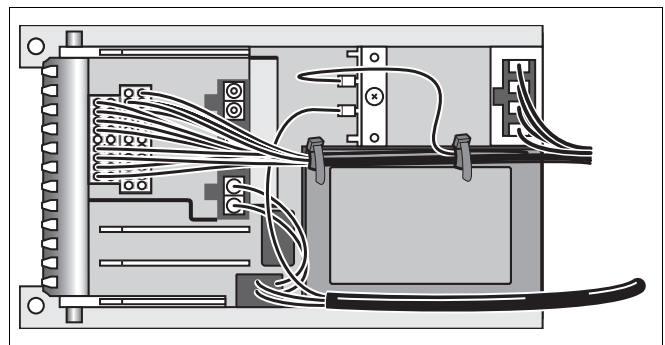

Fig. 40 Backside of the UBA
- Carefully turn the UBA around with the backside facing up (fig. 40).